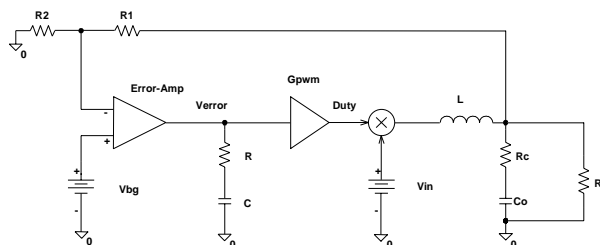

Fig. 1 SC2420 control model.
The control model of SC2420 can be depicted in Fig. 1. This model can also be used in a Pspice kind of simulator to generate loop gain Bode plots. The bandgap reference is 1V and trimmed to +/-1% accuracy. The desired output voltage can be achieved by setting the resistive divider network, R1 and R2.
(6) The final step is to generate the Bode plot, either by using the simulation model in Fig. 1 or using the equations provided here with Mathcad. The phase margin can then be checked using the Bode plot. Usually, this design procedure ensures a healthy phase margin.